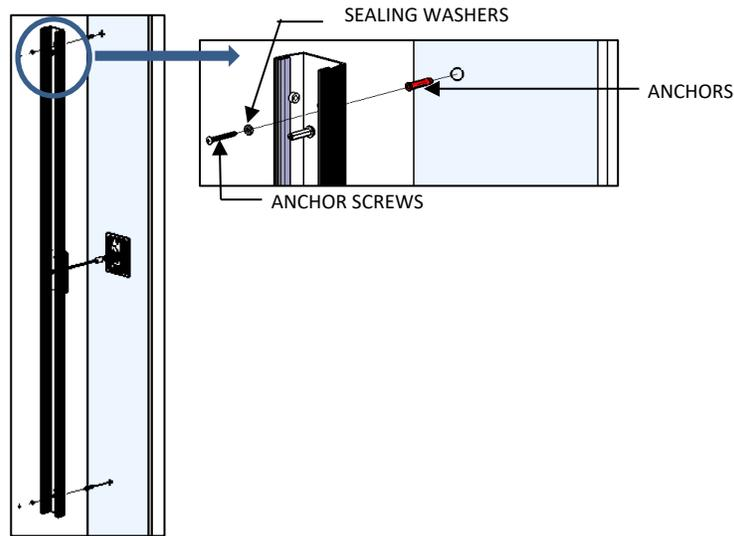

FIG.11 – BACK-CHANNEL ASSEMBLY TO J-BOX
6. Mark ANCHOR HOLE locations on wall using BACK-CHANNEL. Drill 3/16" dia. holes and insert provided ANCHORS as shown in FIG. 11.